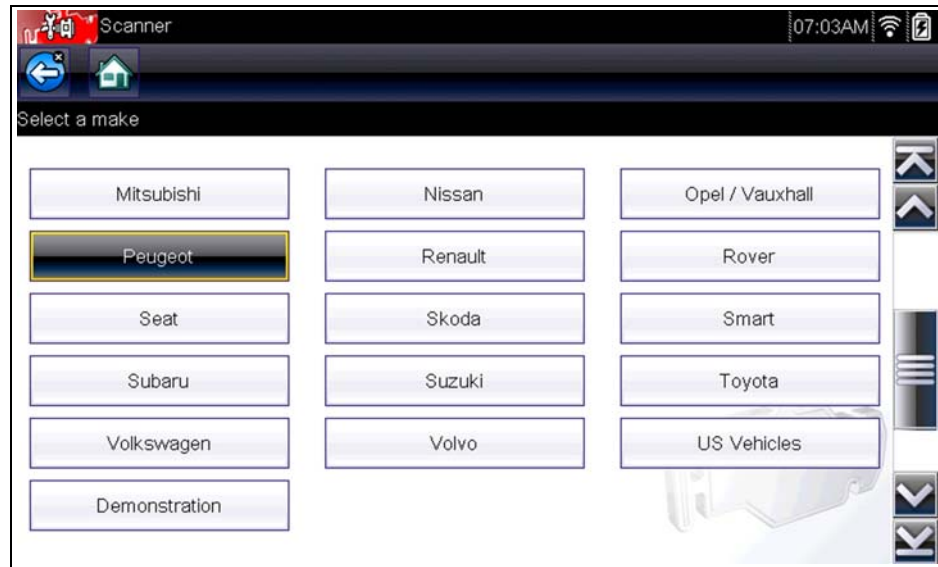

Figure 4-2 Manufacturer list
A list of vehicle manufacturers (make) displays (Figure 4-2).
2. Select a **vehicle manufacturer** (Figure 4-2).